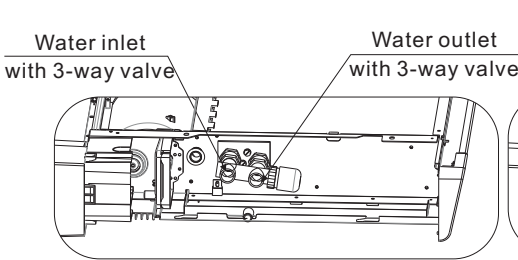
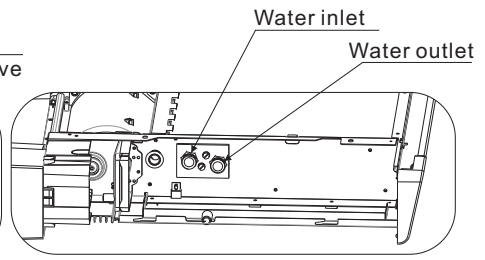

Fig. 29
Fig.30
4.6.1 Refer to fig.29 and fig.30 to connect the inlet and outlet lines. The hydraulic lines and joints must be thermally insulated.